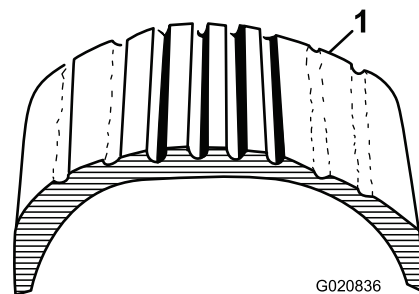
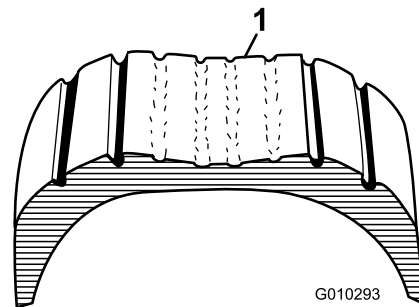

Figure 17
Figure 18
1. Visually inspect the tires for damage and wear (Figure 17 and Figure 18).